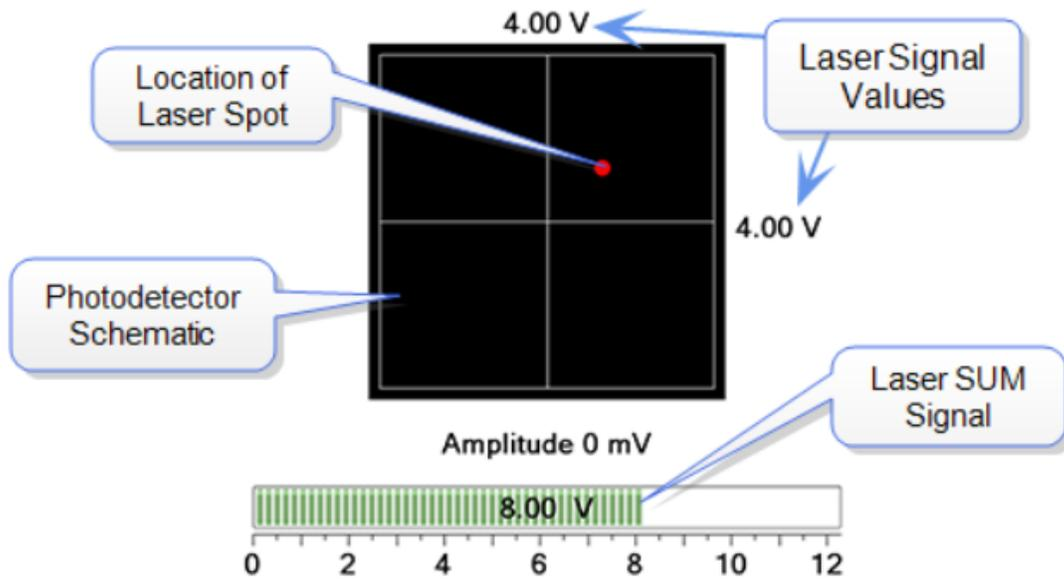
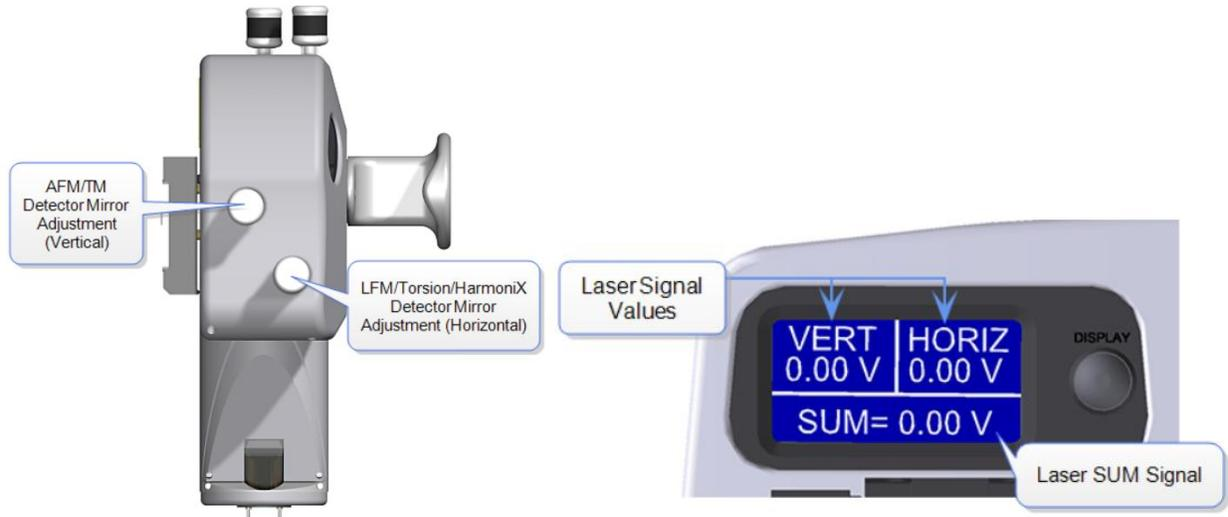

Figure 10. The Schematic of the video panel in the Setup view
Figure 11. (Left) The Laser Detector knobs on the Dimension Icon head and (right) Dimension Icon LCD panel.
20. Continue adjusting until the maximum Laser SUM Signal, as shown in Figure 10, is achieved (around 5.00 V). The Setup view displays the laser signal values and a schematic
21. Center the laser detector signal in the photodetector schematic using the photodetector adjustment knobs located on the left side of the Dimension Icon scanner, as shown in Figure 11 (left).
22. Using the laser detector knobs, adjust the vertical and horizontal laser signal values to zero. Laser signal values can be observed both in the software Setup view, as shown in Figure 10, and on the Dimension Icon LCD panel, shown in Figure 11 (right).